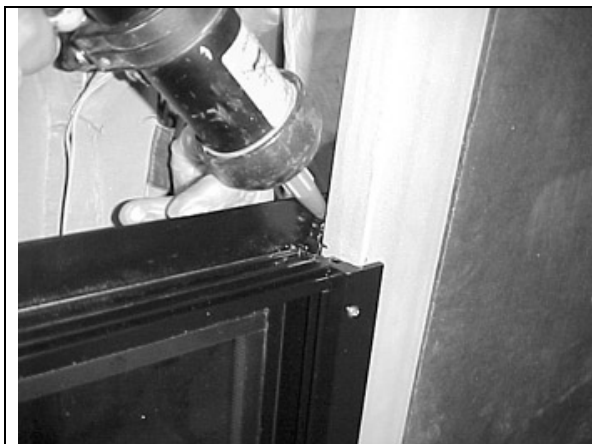

FIGURE 69 : AWNING WINDOW – SEAL THE UPPER CORNERS
11. Using Sika 252 or 255, seal the upper corner of the awning window, both side (FIGURE 69).